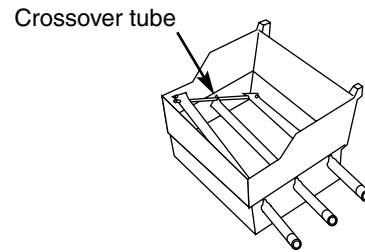

Figure 19
- h) Lift and twist the burner assembly slightly, to separate the crossover tube from the burners. Figure 19. Remove the burners from the cooking box.